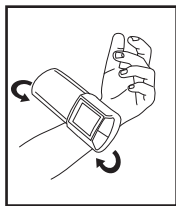

Fig. 1
4. Apply the preformed cuff to your left wrist so that the digital display face is positioned on the inside area of your wrist facing you, *Fig. 1*.